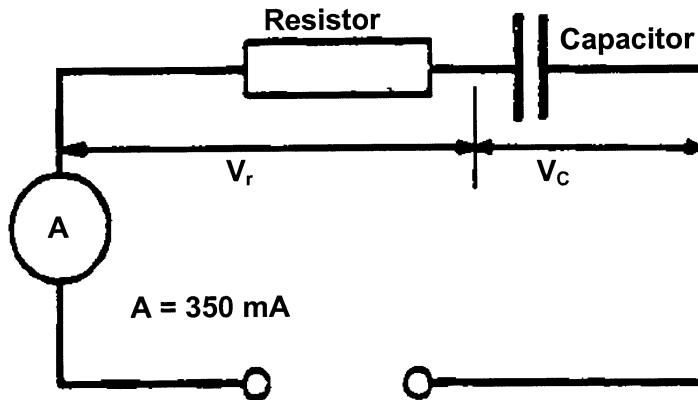
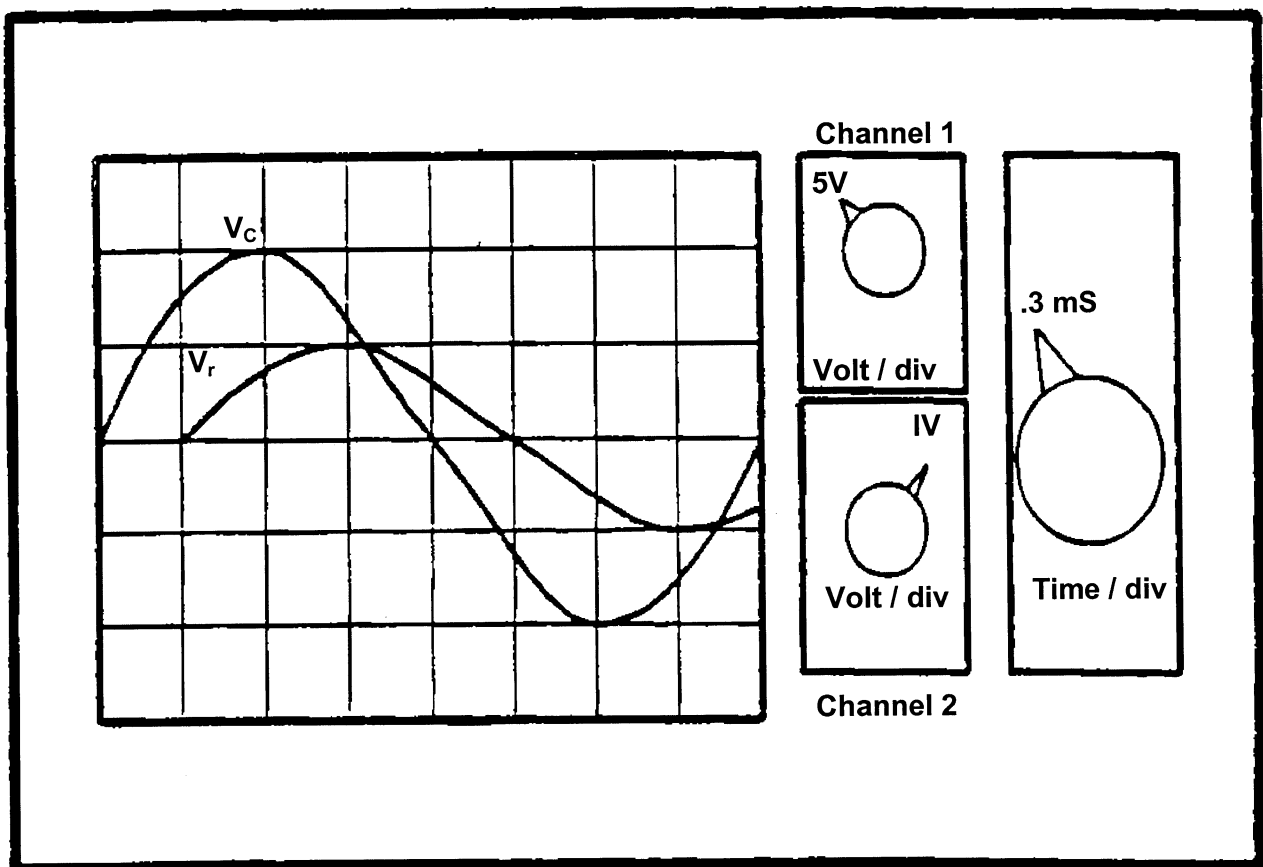

Figure 1
Figure 2
- 1.3 An unknown resistor and capacitor are connected in series with each other. The voltage values are obtained by the readings on the oscilloscope (**Figure 2**). The value of the current is obtained from the meter connected in the circuit (**Figure 1**). Channel 1 measures the voltage across the capacitor, and channel 2 the voltage across the resistor. Calculate the value of the resistor and the capacitor.